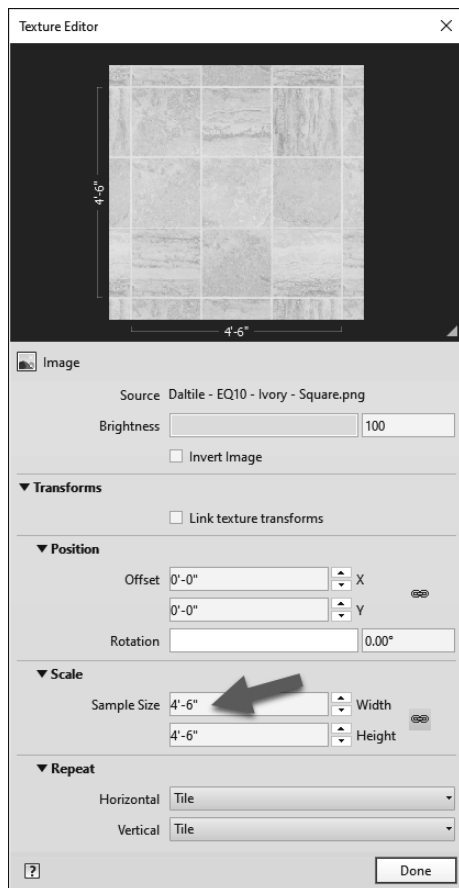

FIGURE 4-4.16 Adjusting texture size
65. In the *Texture Editor*, change the *Sample Size* to **4'-6" x 4'-6"**; this is for three 18" tiles in each direction (Figure 4-4.16).